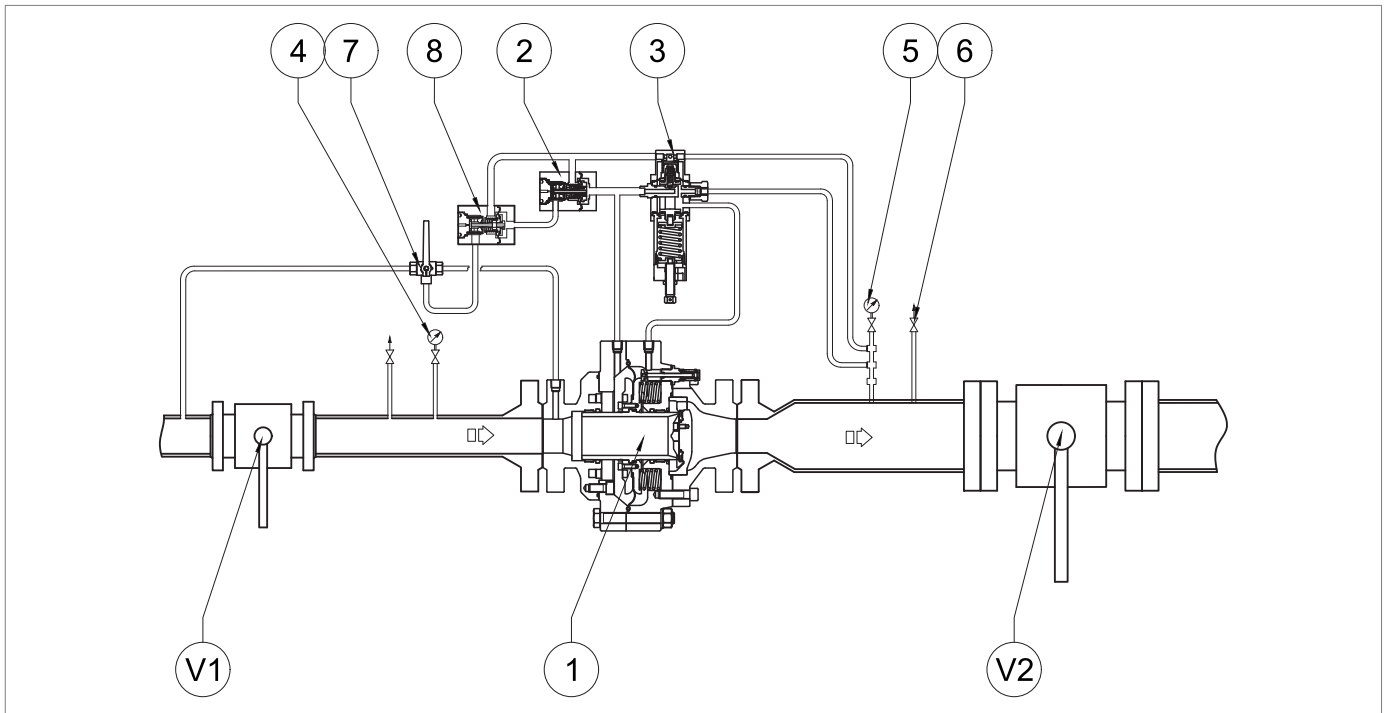

Fig. 8.24. Commissioning the regulator ASX 176/FO
1	<p>By adjusting the main regulator, increase the downstream pressure up to the tripping value of the slam-shut valve, to check for proper calibration.</p> <div style="border: 1px solid blue; padding: 5px;"> <p>! NOTICE!</p> <p>Check the pressure referring to the pressure gauge (Fig. 8.24, ref. 5) downstream of the main regulator. If the slam-shut valve:</p> <ul style="list-style-type: none"> <li>• trips before the expected pressure value: screw in (clockwise) the adjustment ring nut (13) so as to further compress the spring (11);</li> <li>• does not trip at the expected pressure value: unscrew (anti-clockwise) the adjustment ring nut (13) so as to relieve the spring (11).</li> </ul> </div>
2	By opening the drain cock (Fig. 8.24, ref. 6), decrease the pressure in the downstream section to the calibration value of the main regulator.
3	Close the drain cock (Fig. 8.24, ref. 6).
1	Open the drain cock (Fig. 8.24, ref. 6) to the atmosphere and keep it open for the next steps.
2	<p>Decrease the downstream pressure to the minimum tripping pressure of the slam-shut device by adjusting the pilot.</p> <p>! NOTICE!</p> <p>Check the pressure referring to the downstream pressure gauge (Fig. 8.24, ref. 5).</p> <p>If the slam-shut valve:</p> <ul style="list-style-type: none"> <li>• trips before the expected pressure value: unscrew (anti-clockwise) the adjustment ring nut (15) so as to relieve the spring (17);</li> <li>• does not trip before the expected pressure value, screw in (clockwise) the adjustment ring nut (15) so as to further compress the spring (17).</li> </ul>